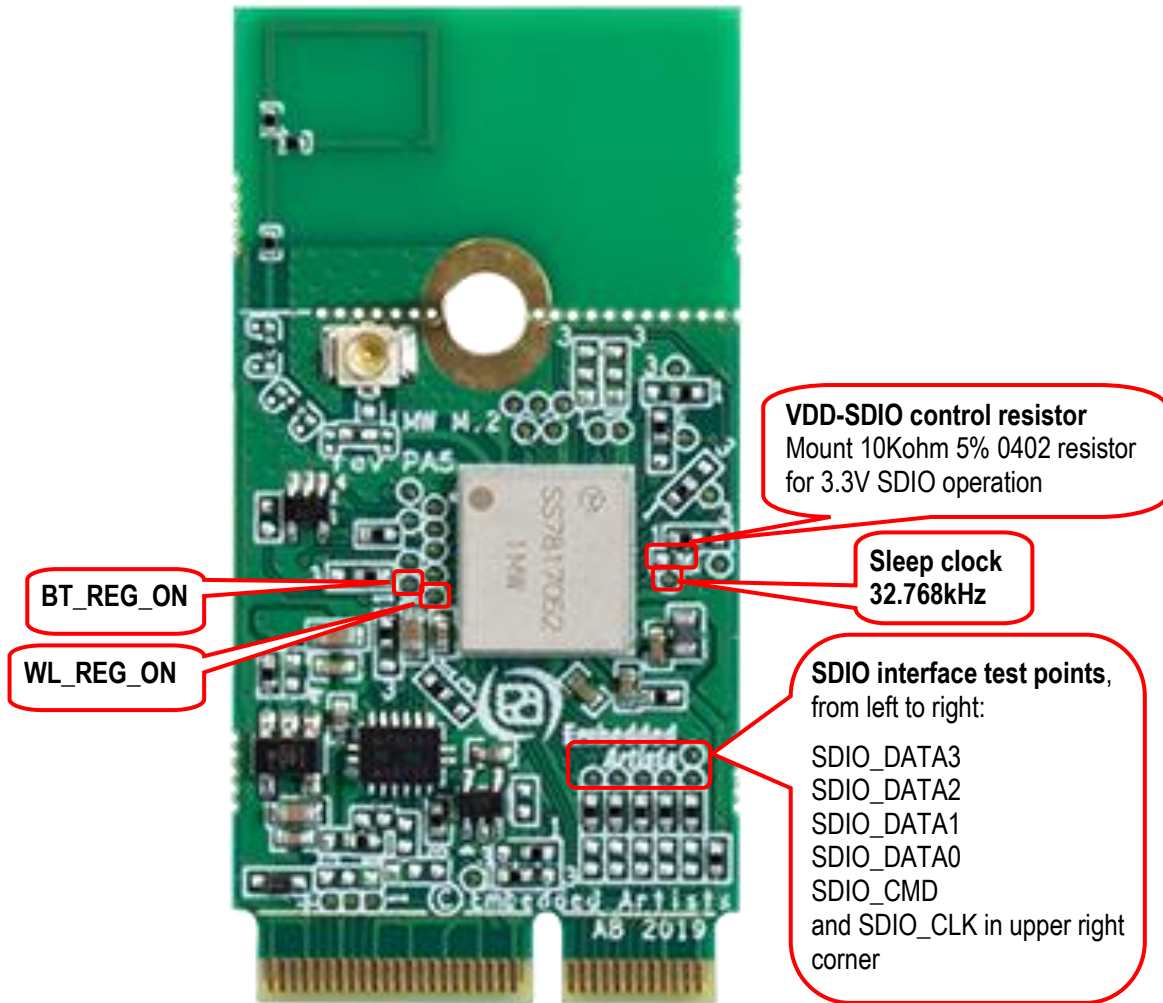

Figure 4 – 1MW M.2 Module Test Points and VDD-SDIO Control Resistor
**Note** that it is not enough to connect a 3.3V supply to pin 64. The VDD-SDIO control resistor must also be mounted (10Kohm, 5%, 0402 resistor), see Figure 4 for location of this resistor.